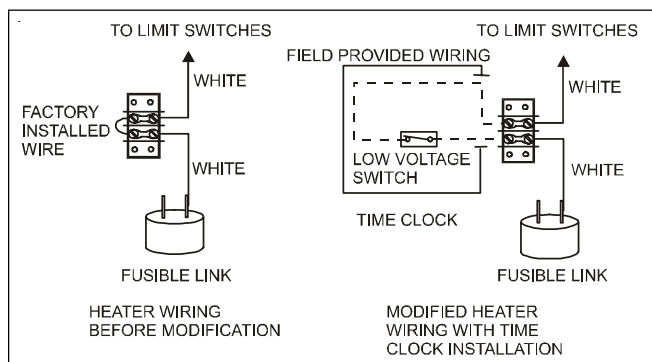

Figure 11. Typical Time Clock Wiring.
3. Connect the low voltage wires from the time clock auxiliary switch to the two terminals. Use American Wire Gage (AWG) No. 14 gauge stranded copper wire with a temperature rating of 221°F (105°C) or greater (see Figure 11).